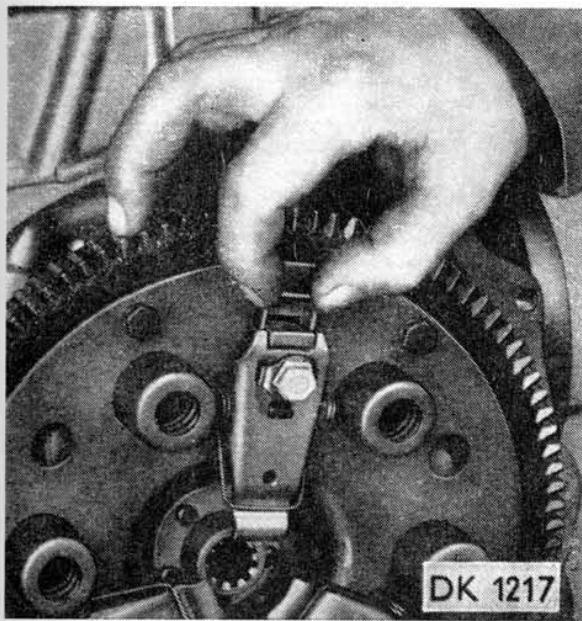

Fig. 3.1/2 - Relieving Clutch Spring Tension by slipping support clips under release levers
2. Slip support clips under the clutch release levers as shown in Figs. 3.1/1 and 3.1/2 and remove the flywheel fastening bolts. For the function of the supporting clips see Chapter 3.4, paragraph 3.